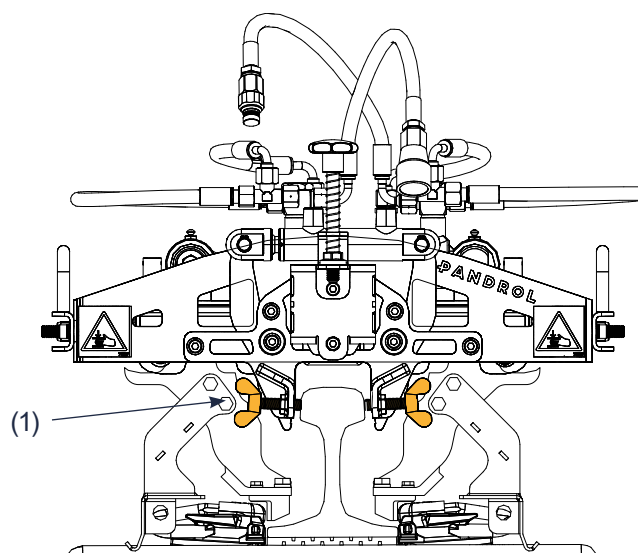

Fig 44.
Adjust the 4 screws (1), Fig 44 to enable good torsional stiffness during de-clipping.